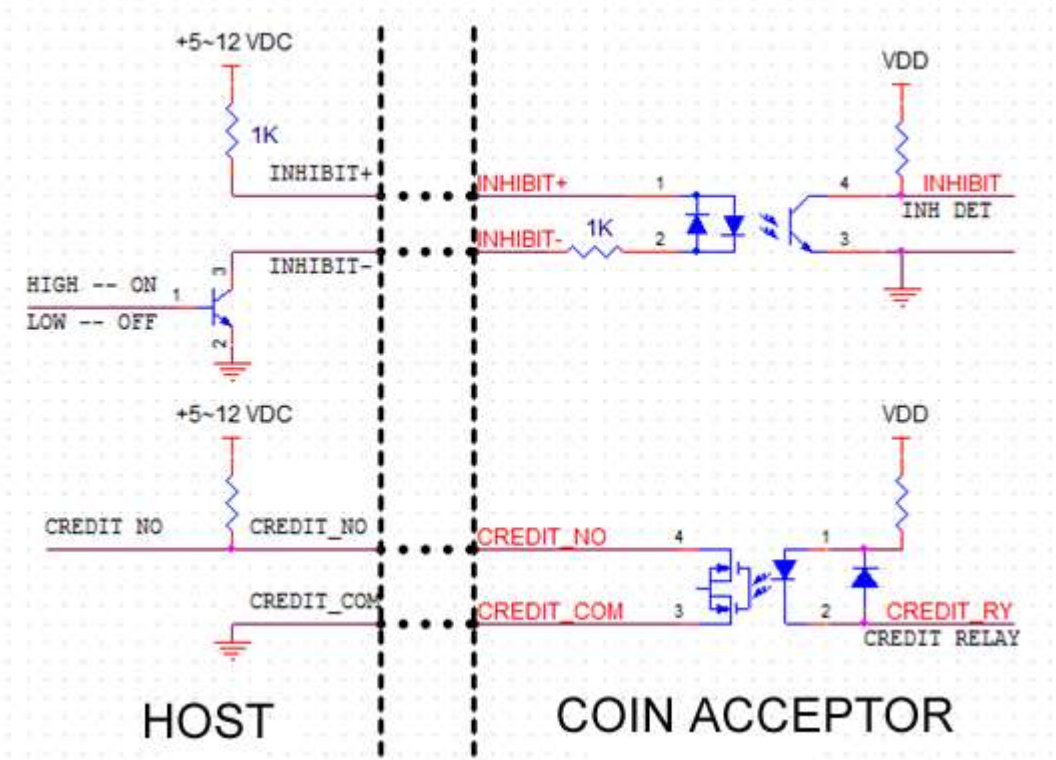

Figure 1
(1) Pulse Interface connection, See figure 1、2.